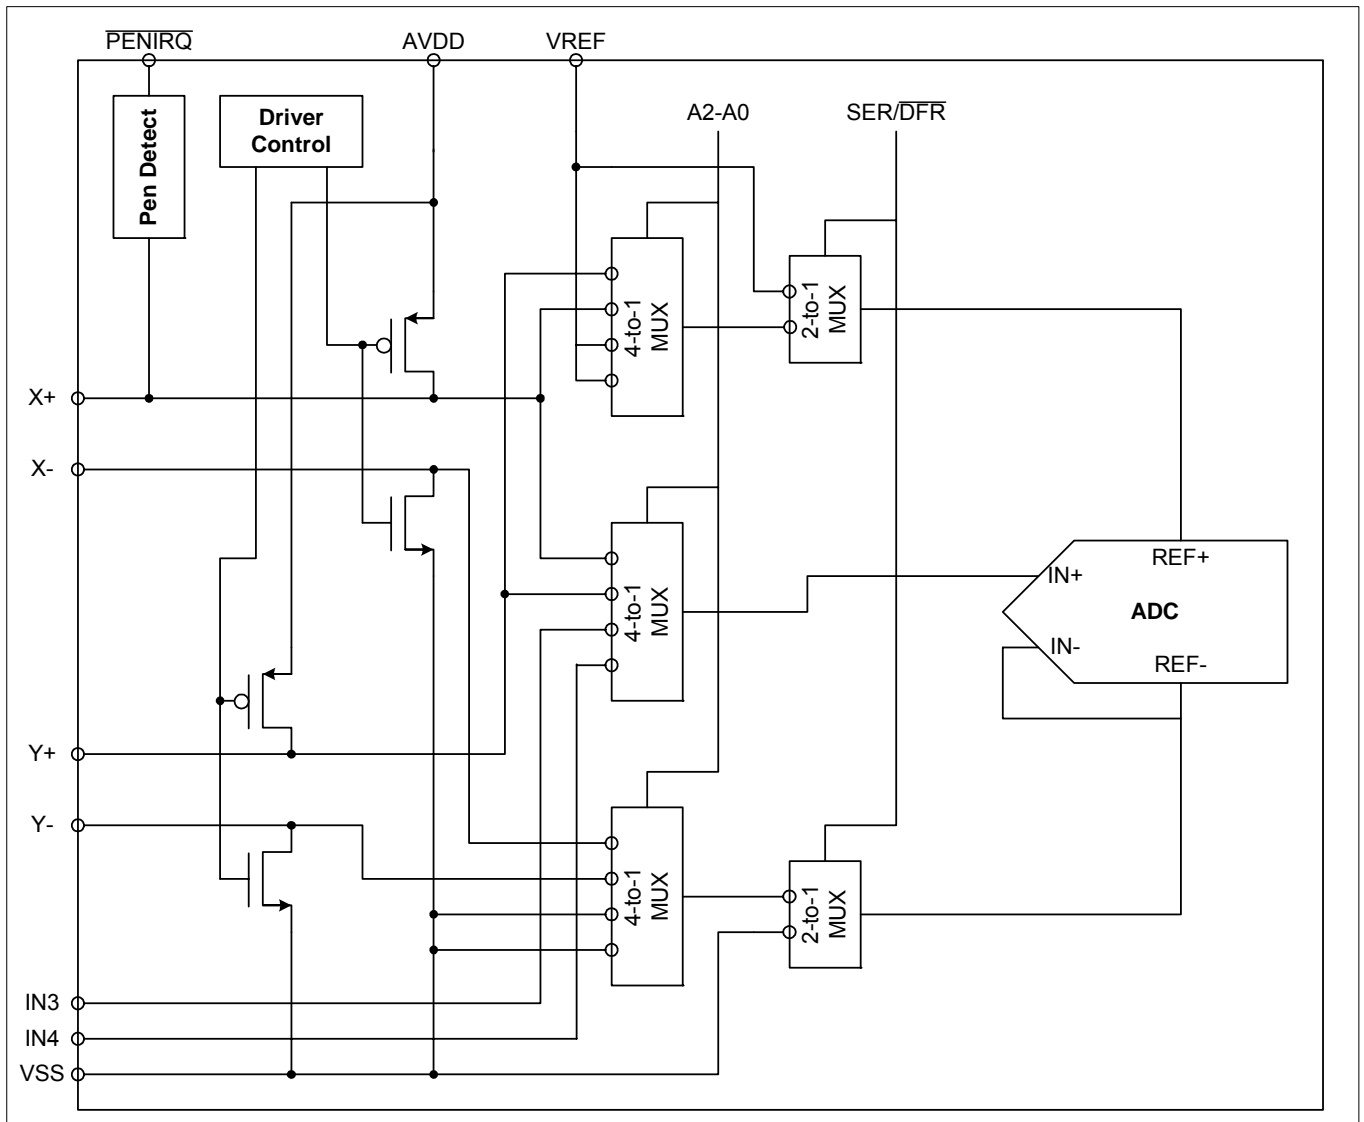
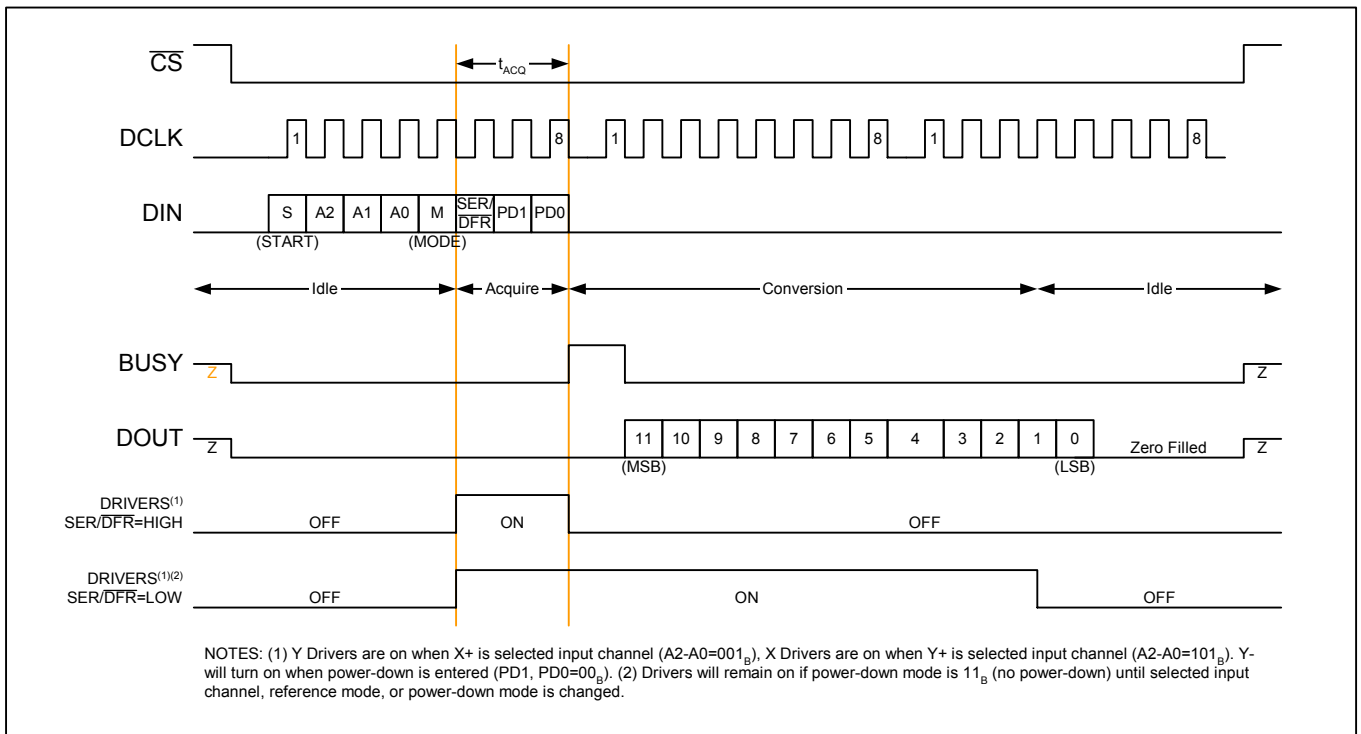
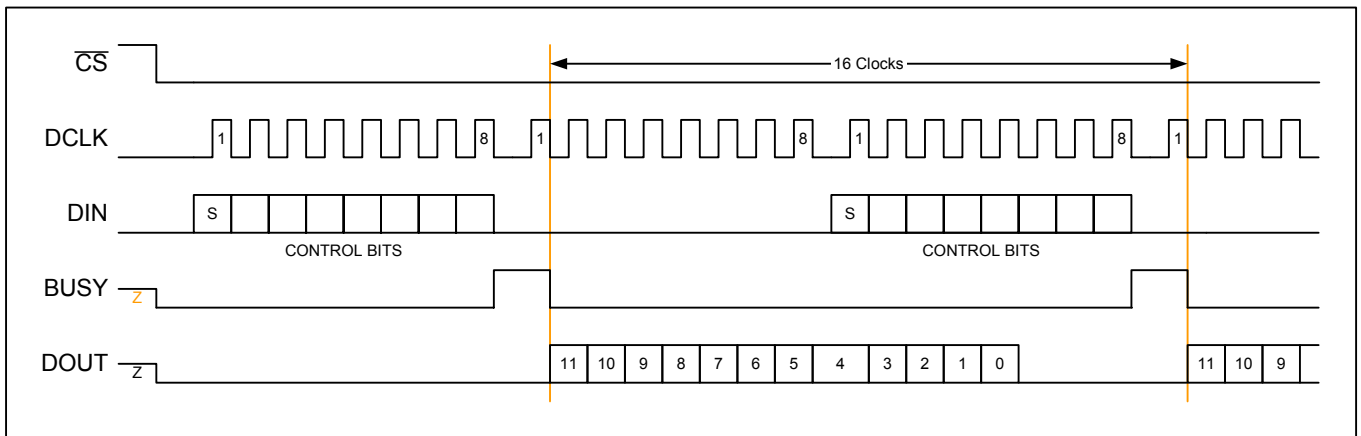
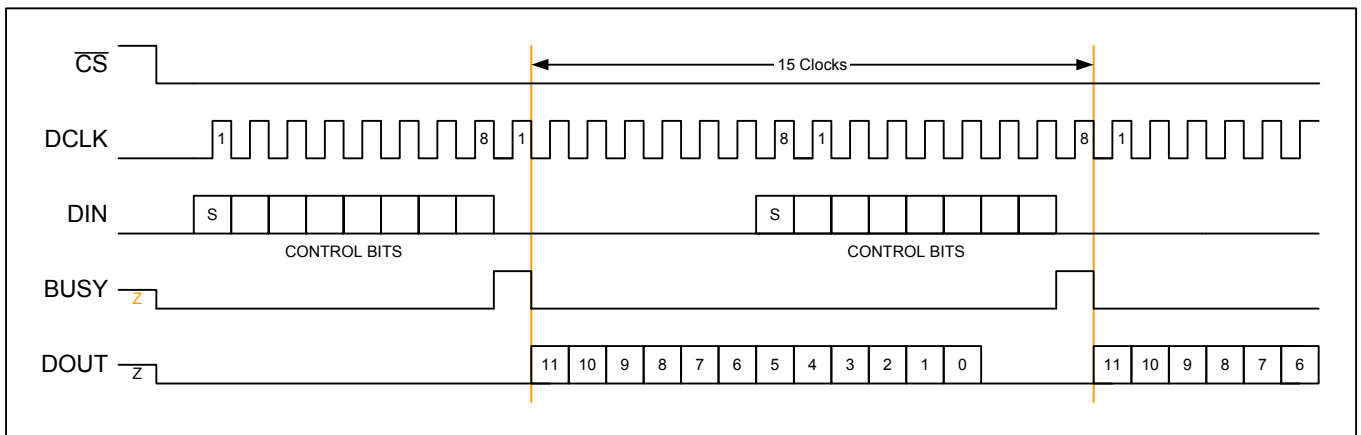

FIGURE 2. Simplified Diagram of Analog Input.
Figure 5. Conversion Timing, 24 Clocks per Conversion, 8-bit Bus Interface. No DCLK Delay Required with Dedicated Serial Port.
Figure 6. Conversion Timing, 16 Clocks per Conversion, 8-bit Bus Interface. No DCLK Delay Required with Dedicated Serial Port.
Figure 10. Maximum Conversion Rate, 15 Clocks-per-Conversion, MODE=LOW.
See Figure 2 for a block diagram of the input multiplexer on the UC6528x, the differential input and differential reference of the ADC. Table 1 and Table 2 show the relationship between the A2, A1, A0, & SER/DFR control bits and the configuration of the UC6528x. The control bits are provided serially via the DIN pin - see the Digital Interface section of this data sheet for details.
When the converter enters the hold mode, the voltage difference between the +IN and -IN input (See Figure 2) is captured on the internal capacitor array. The input current on the analog input depends on the conversion rate of the device. During the sample period, the source must charge the internal capacitor array (typically 25pF). After the capacitor has been fully charged, there is no further input current. The rate of charge transfer from the analog source to the converter is a function of conversion rate.
The voltage difference between REF+ and REF- (shown in Figure 2) sets the analog input range. The UC6528x will operate with a reference in the range of 1V to AVDD. There are several critical items concerning the reference input and its wide voltage range. As the reference voltage is reduced, the analog voltage weight of each digital output code is also reduced. This is often referred to as the LSB (least significant bit) size and is equal to the reference voltage divided by 4096. Any offset or gain error inherent in the ADC will appear to increase, in terms of LSB size, as the reference voltage is reduced. For example, if the offset of a given ADC is 2LSBs with a 2.5V reference, it will typically be 5LSBs with a 1V reference. In each case, the actual offset of the device is the same, 1.22mV. With a lower reference voltage, more care must be taken to provide a clean PCB layout including adequate bypassing, a clean (low noise, low ripple) power supply, low noise reference and input signal.
In some applications, external capacitors may be required across the touch screen for filtering noise picked up by the touch screen (for example, noise generated by the LCD panel or backlight circuitry). These capacitors provide a low-pass filter to reduce the noise, but cause a settling time requirement when the panel is touched that typically shows up as a gain error. There are several methods for minimizing or eliminating this issue. The problem is that the input and/or reference has not settled to the final steady-state value prior to the ADC sampling the input(s) and providing the digital output. Additionally, the reference voltage may still be changing during the measurement cycle. Option 1 is to stop or slow down the UC6528x DCLK for the required touch screen settling time. This option allows the input and reference to have stable values for the Acquire period (3 clock cycles of the UC6528x; see Figure 5). This option works for both the single-ended and the differential modes. Option 2 is to operate the UC6528x in the differential mode only for the touch screen measurements and command the UC6528x to remain on (touch screen drivers ON) and not go into power-down (PD0=1). Several conversions are made, depending on the settling time required and the UC6528x data rate. Once the required number of conversions have been made, the processor commands the UC6528x to go into its power-down state on the last measurement. This process is required for X-Position and Y-Position measurements. Option 3 is to operate in the 15 Clock-per-Conversion mode, which overlaps the analog-to-digital conversions and maintains the touch screen drivers on until commanded to stop by the processor (see Figure 10).
Figure 5 shows the typical operation of the UC6528x's digital interface. This diagram assumes that the source of the digital signals is a microcontroller or digital signal processor with a basic serial interface. Each communication between the processor and the converter consists of eight clock cycles. One complete conversion can be accomplished with three serial communications, for a total of 24 clock cycles on the DCLK input.
See Figure 5 for the placement and order of the control bits within the control byte. Tables 3 & 4 give detailed information about these bits. The first bit, the (S) bit, must always be HIGH and indicates the start of the control byte. The UC6528x will ignore inputs on the DIN pin until the start bit is detected. The next three bits (A2-A0) select the active input channel or channels of the input multiplexer (see Tables 1 & 2 and Figure 2). The MODE bit determines the number of bits for each conversion, either 12 bits (LOW) or 8 bits (HIGH). The SER/DFR bit controls the reference mode: either single-ended (HIGH) or differential (LOW). (The differential mode is also referred to as the ratiometric conversion mode.) In single-ended mode, the converter's reference voltage is always the difference between the VREF and VSS pins. In differential mode, the reference voltage is the difference between the currently enabled switches. See Tables 1 & 2 and Figures 2 through 4 for more information. The last two bits (PD1-PD0) select the power-down mode as shown in Table 5. If both inputs are HIGH, the device is always powered up. If both inputs are LOW, the device enters a power-down mode between conversions. When a new conversion is initiated, the device will resume normal operation instantly - no delay is needed to allow the device to power up and the very first conversion will be valid. There are two power-down modes: one where PENIRQ is disabled and one where it is enabled.
The control bits for conversion n + 1 can be overlapped with conversion "n" to allow for a conversion every 16 clock cycles, as shown in Figure 6. This figure also shows possible serial communication occurring with other serial peripherals between each byte transfer between the processor and the converter.
There are two major power modes for the UC6528x: full power (PD1-PD0=11B) and auto power-down (PD1-PD0=00B). When operating at full speed and 16 clocks per conversion (see Figure 6), the UC6528x spends most of its time acquiring or converting. There is little time for auto power-down, assuming that this mode is active. Therefore, the difference between full power mode and auto power-down is negligible. If the conversion rate is decreased by simply slowing the frequency of the DCLK input, the two modes remain approximately equal. However, if the DCLK frequency is kept at the maximum rate during a conversion but conversions are simply done less often, the difference between the two modes is dramatic. Another important consideration for power dissipation is the reference mode of the converter. In the single-ended reference mode, the converter's internal switches are on only when the analog input voltage is being acquired (see Figure 5). Thus, the external device, such as a resistive touch screen, is only powered during the acquisition period. In the differential reference mode, the external device must be powered throughout the acquisition and conversion periods (see Figure 5). If the conversion rate is high, this could substantially increase power dissipation.